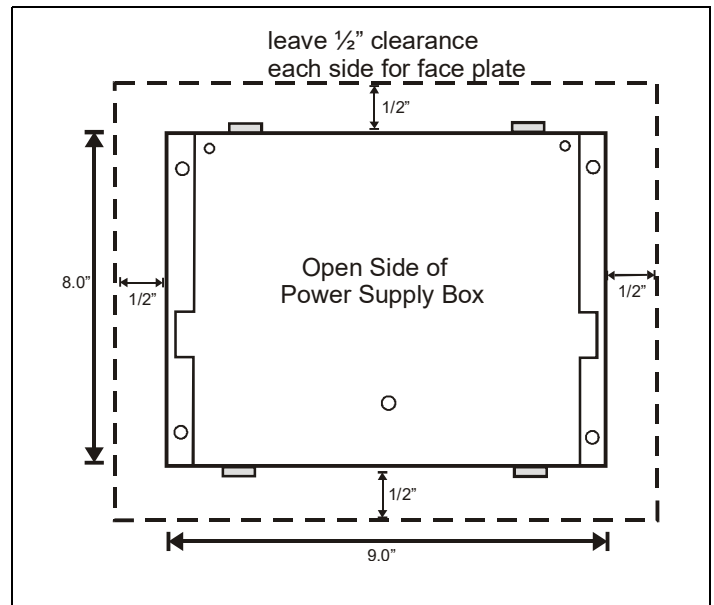

Figure 6 - Leave 1/2" For Face Plate Mounting
- Cut a rectangular hole into the mounting surface 8.0" high by 9.0" wide, by at least 3.875" deep (20.32 cm high by 22.86 cm wide by at least 9.84 cm deep). When cutting the mounting hole, allow at least 1/2" (1.27 cm) clearance around the hole for face plate mounting (Figure 6).